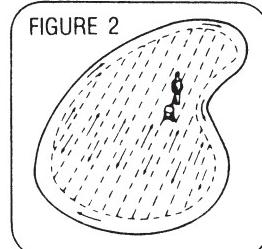

FIGURE 2
3. If lawn is odd shaped, spread a border around the edges and then spread between the border. See figure 2.